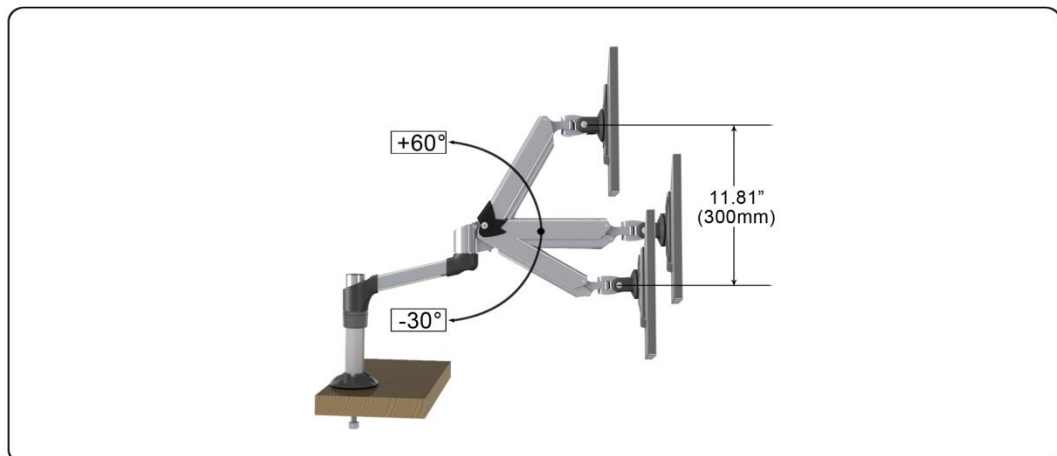
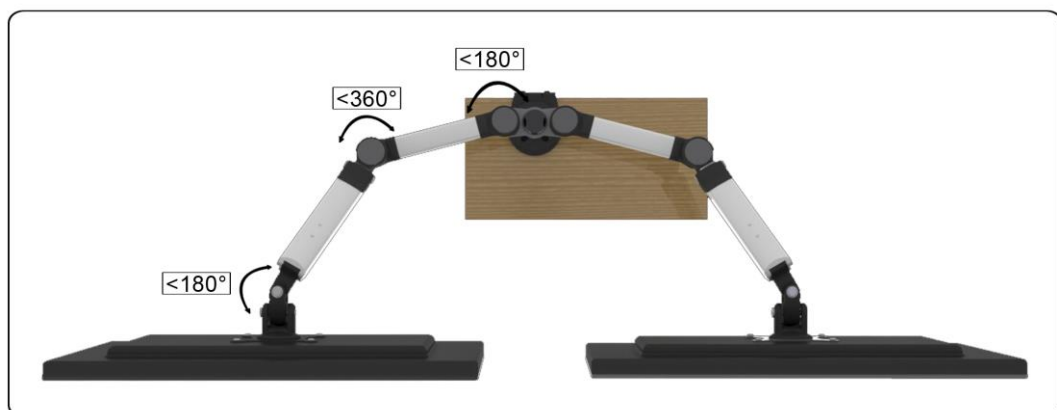

Figure 5-5
Figure 5-6
5. The gas spring arm can lift up 60° and down 30° (See Figure 5-5). At the mounting pole, the arm can rotate 360° as well as the pivot point on the extension arm. At the VESA bracket the monitor can pivot 180° (See Figure 5-6).